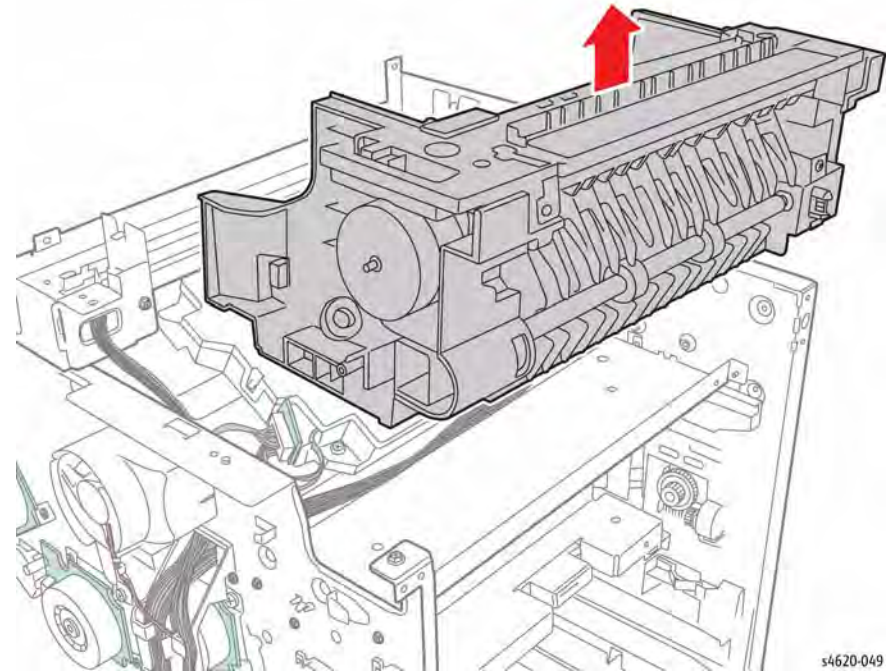

Figure 7 Remove the Exit Assembly
16. Raise the Exit Assembly up to remove, Figure 7.